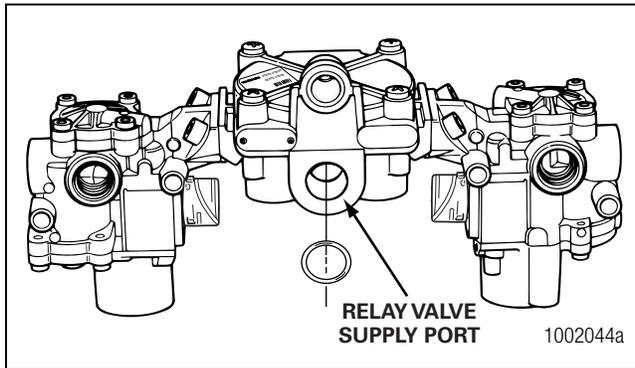

Figure 4.11
4. Lubricate the large replacement O-ring and install it in the groove of the relay valve supply port. Figure 4.11.